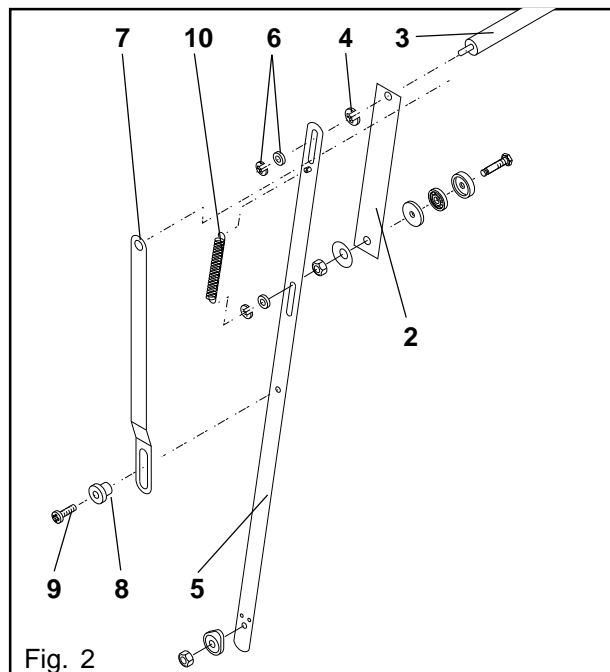

Fig. 2
- Insert the inner scraper arm (2). (Fig. 2)
- Push the axle (3) through the bore of the inner scraper arm, and then through the bores of the bearing housing. (Fig. 2, 3)
- Slide the second inner scraper arm (2) onto the axle, and apply the retaining rings (4). (Fig. 2)
- Mount the outer scraper arm (5) onto the axle and fasten it by means of the washers and retaining rings (6). (Fig. 2)
- Fasten the lever arm (7) with the collared bushes (8) and fastening screws (9). (Fig. 2)
- Hinge the spring (10) for the scraper arm. (Fig. 2)